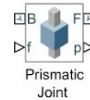

Figure 4: Prismatic joint block.
- e) In the Internal Mechanics setting, set the damping coefficient to 0.1 N/m/s. For the Sensing settings be sure to check Position so that the output position of the cart is monitored. Lastly, for Under the Actuation tab choose the Provided by input option for force. You should apply these settings and a block should be generated as in Figure 4. Connect the B port to the last transformation created.